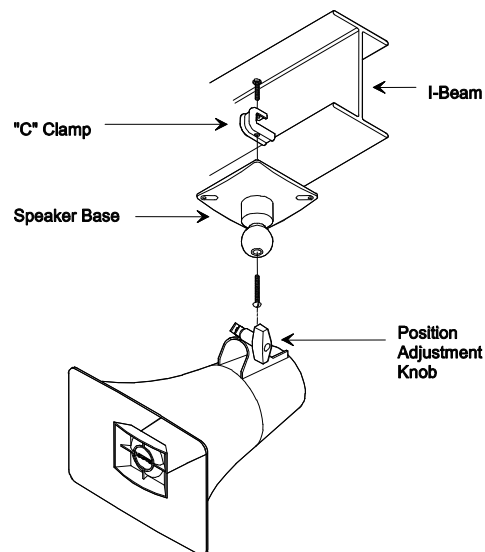

Figure 1 - Mounting to a Beam with a "C" Clamp
- A "C" clamp is provided with the horns to allow mounting to a beam. Place the bolt through the hole in the bottom of the base to secure the "C" clamp to the beam (See Figure 1). It is suggested that the horn be mounted to the underside of the "I" beam to provide maximum positioning adjustments.
The horns may be rotated or moved up and down to obtain the desired position by loosening the position adjustment knob (See Figures 1 and 2) at the bottom of the unit approximately one turn. Make required adjustments, retighten knob.